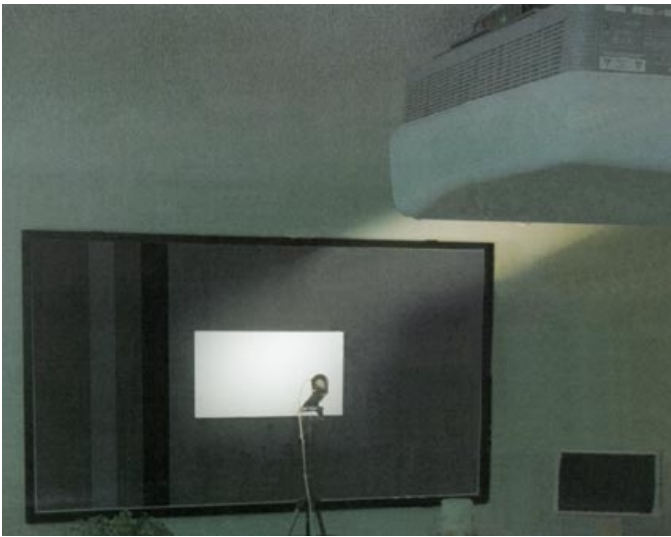

Fig. 5: Point the ColorPro pod at the light source; back toward the projector for front projectors, and towards the screen for rear projectors.
3. Position the measuring pod in front of the screen in such a way that it will not move during the test. You want to measure the direct light out of the projector - not the reflected screen light. **If you are working on a front projection system point the pod back at the projector** (See Figure 5) **if you are working on a rear projector point the pod towards the screen.** In either case locate the pod as close as possible to the screen.